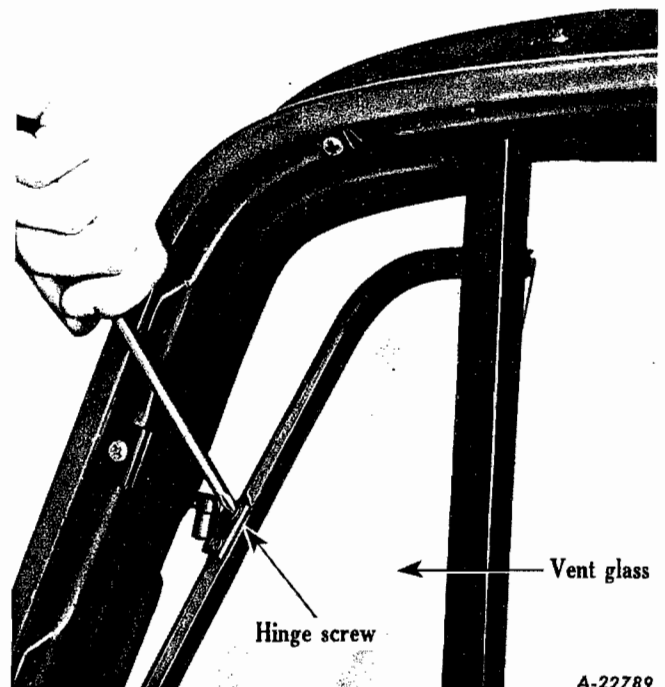

Fig. 31
6. Remove two door vent glass window hinge retaining screws (Fig. 31).